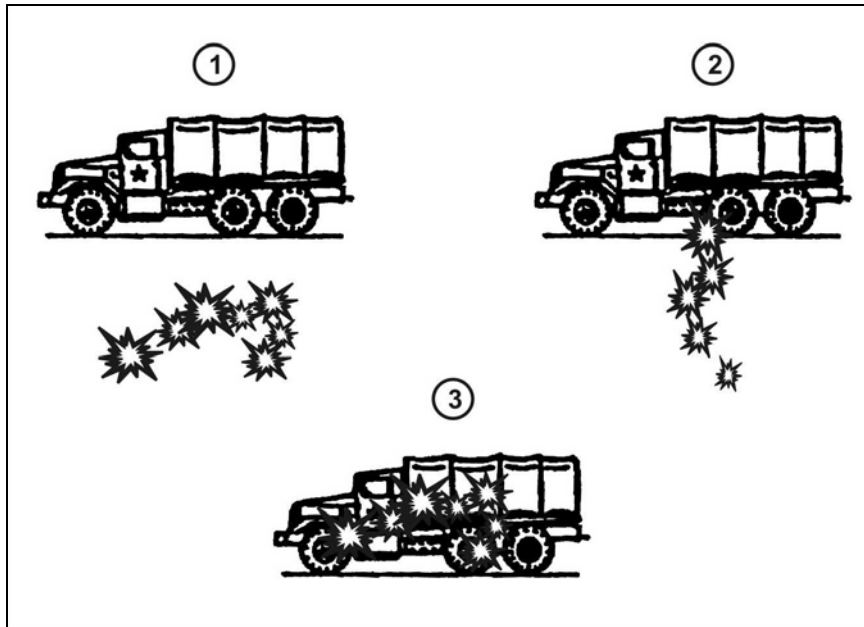

Figure 6-35. Point target technique.
a. To engage a point target, the gunner indexes range or lases the target, lays precisely on target, and fires an initial burst of 10 to 15 rounds (Figure 6-35). The initial burst should hit as much of the target as possible. The gunner fires additional bursts until he destroys the target or the BC commands CEASE FIRE.